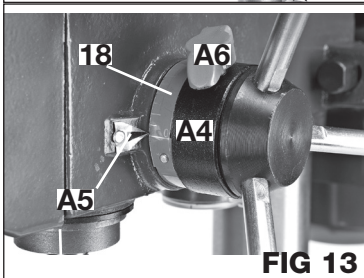

FIG 13
SETTING DRILL DEPTH (FIG 13)
The drill depth scale (18) is located on the hub (A4). See FIG 13. The scale pointer (A5) indicates the spindle travel distance. To stop the drill at a specific depth for consistent and repetitive drilling: